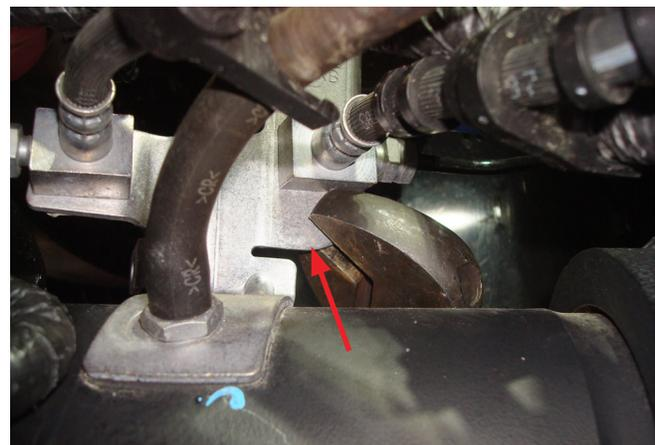

Fig. 23
3. Make clearance for the lower air spring roll plate by bending the upper Brake line/ABS harness/vent tube bracket. Hold the bottom of the bracket by using an adjustable wrench to make the bend (Fig. 23). Bend the top of the bracket back and down by using another adjustable wrench (Fig. 24 & Fig. 25).